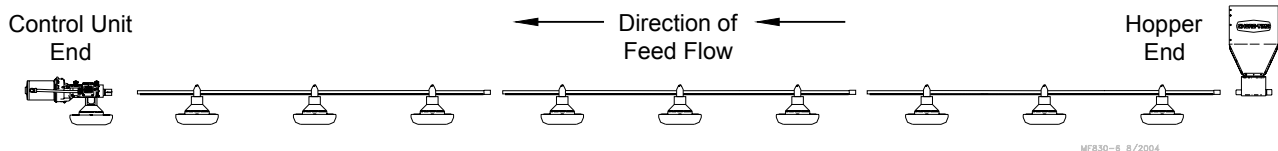

Figure 32. Assemble Feeders on Tubes
1. The auger tubes and feeders may be laid out end to end in approximately the final location of the line. **The expanded end of each tube should be toward the Hopper end of the line, see figure 32.**